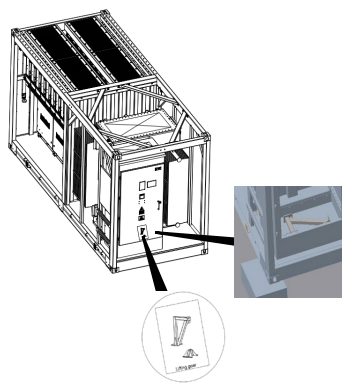

Figure 8 Placement position of spreader
- 1.1 The spreader is placed in the high-pressure room (wrapped by wrapping film) of the first batch of all-in-one machines, and the outer door is affixed with the spreader logo as shown in Figure 8 below;